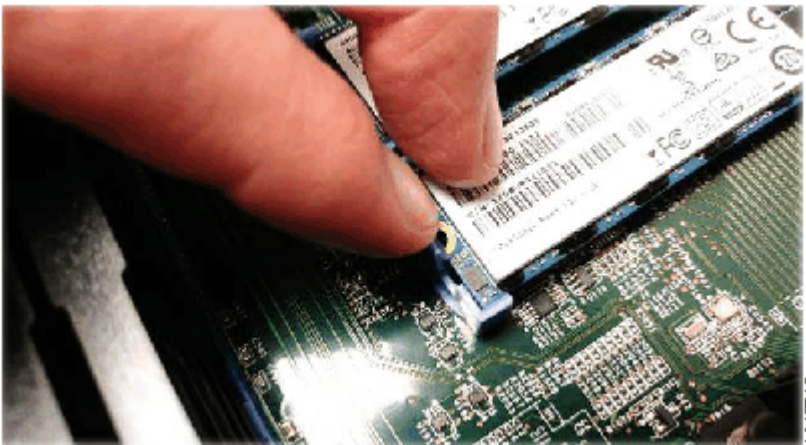

Figure 111. Removing the boot drive
- IBM Storage FlashSystem node canisters have dual boot drives. Figure 111 on page 149 and Figure 113 on page 150 show examples of a dual boot system. The system can run if one boot drive failed. See “Procedure: Understanding system volume dependencies” on page 109 to check for dependencies before you shut down the node.
12. Gently open the blue friction latch, as shown in Figure 111 on page 149. Apply gentle pressure; do not force the latch open.